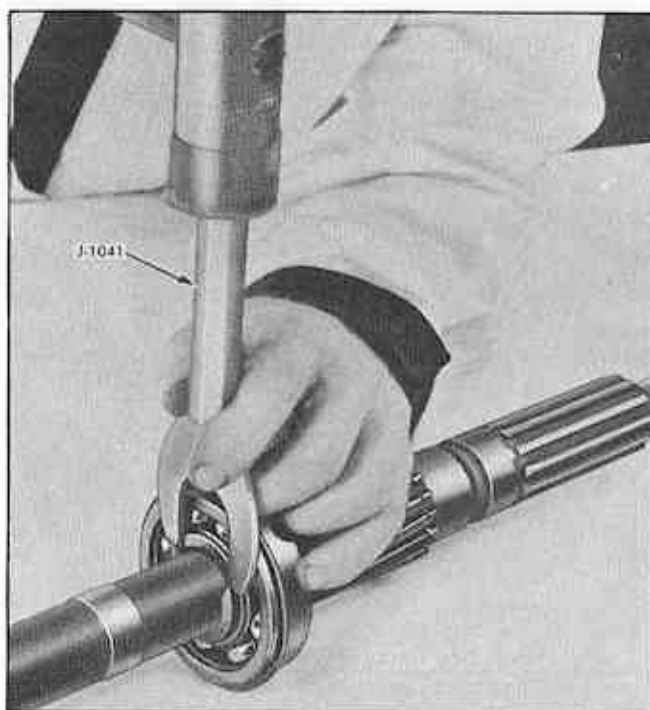

Fig. 34 Removing Rear Bearing Snap Ring
2. Remove spacer from mainshaft and remove rear bearing snap ring using tool J-1041 (Fig. 34).